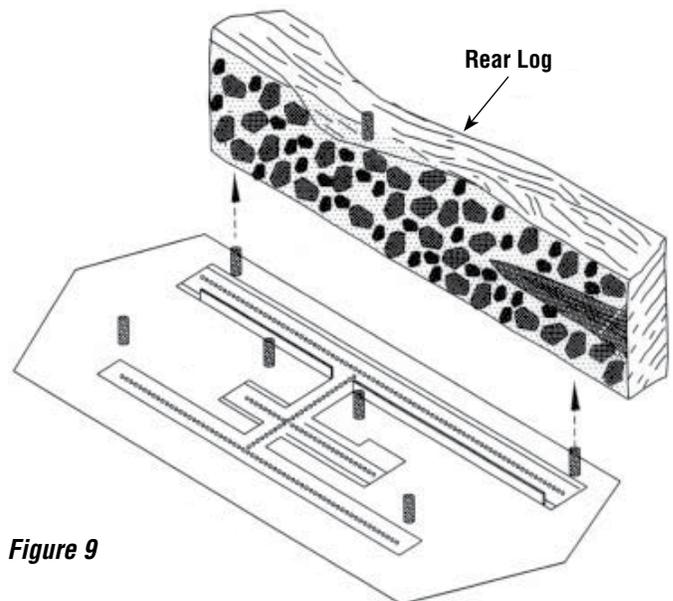

Figure 9
2. Place the rear log with the charred surface forward, on the two rear locating pins (see **Figure 9**).